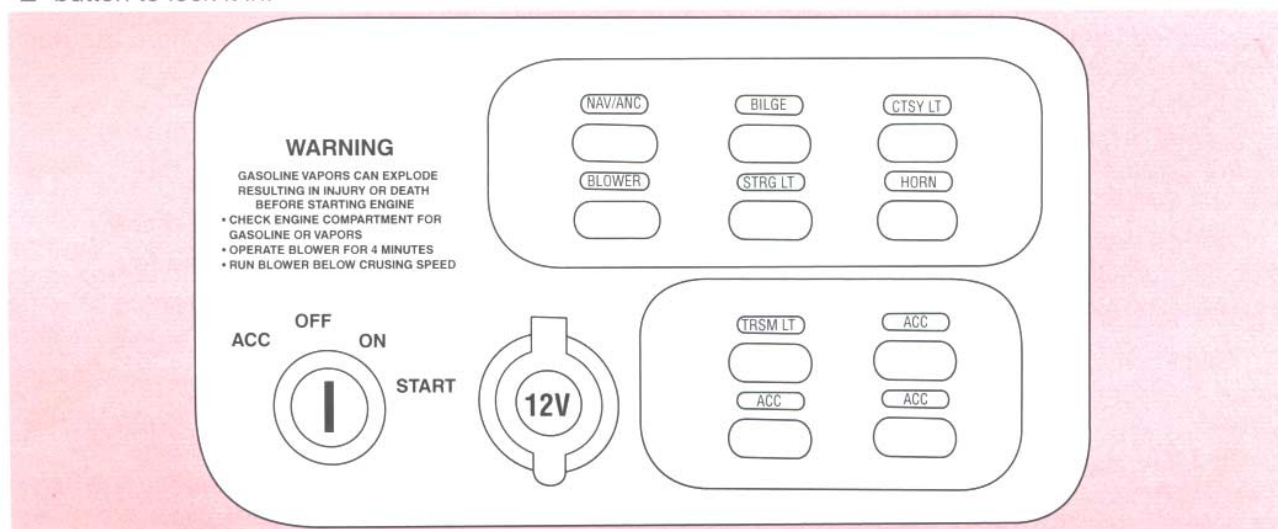

Figure 1-3
resettable circuit breakers located beneath the passenger console. If a problem develops with one of the circuits, switch OFF the circuit and wait about one minute. Then push the appropriate breaker button (Figure 1-3) fully and switch ON the circuit. If the circuit breaker continues to trip, there is a problem somewhere that must be attended to immediately. See your Toyota Marine Sports Dealer.
**Battery Disconnect Switch** - This switch disconnects battery power from the entire boat. It should be in the OFF position whenever the boat is not in use. On mid-engine models, it is located under the engine cover on the port side (Figure 1-3).